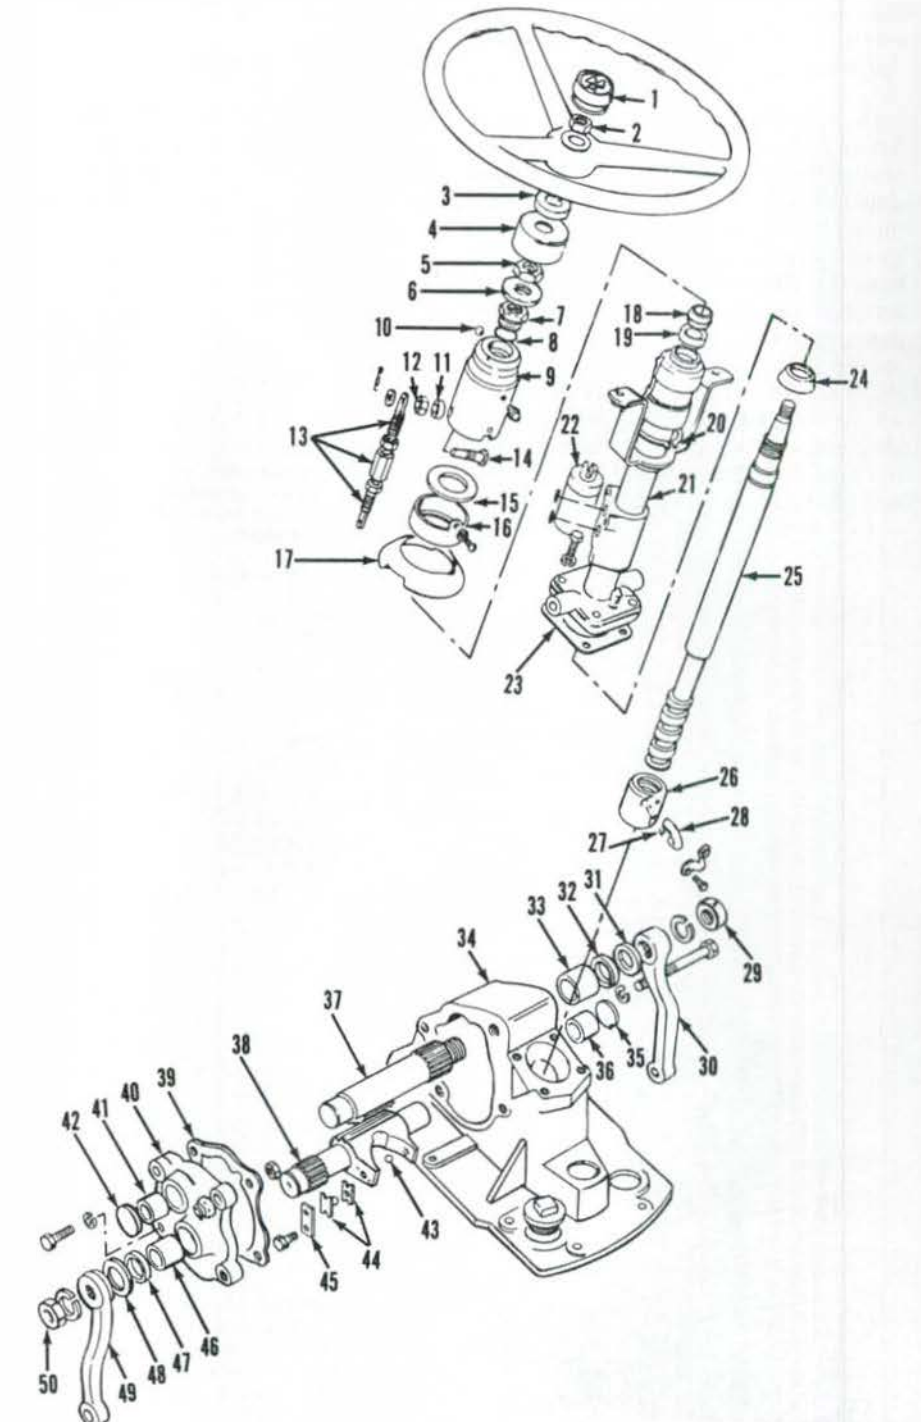

Fig. 18—Exploded view of steering gear assembly used on Models MF240 and MF250.
using a suitable puller. Disconnect battery cables and remove battery. Disconnect fuse box mounting panel. Tag and disconnect electrical wiring between tractor wiring harness and instrument harness. Remove lower instrument panel. Disconnect tachometer cable. Disconnect hand throttle lever from throttle linkage. Remove instrument panel mounting cap screws, then lift instrument panel off the steering column. Remove pitman arms (30 and 49—Fig. 18) using a suitable puller. Disconnect hydraulic lines from power steering valve. Remove cap screws attaching steering box to the side support brackets and to the transmission housing. Shift transmission into neutral, then remove steering gear box with shift levers from the tractor.
**14. OVERHAUL STEERING GEAR.** To disassemble the removed unit, first disconnect and remove control valve (22—Fig. 18) from steering column. Remove plug from steering column (21) and drain oil from housing. Unbolt and remove cover plate (40) from housing. Withdraw the secondary pitman shaft (37). Remove retainer plate (45) and shims (44). Unbolt and remove steering column assembly from housing. Remove primary pitman shaft (38) and steel ball (43). Unscrew ball nut (26) from steering shaft (25).